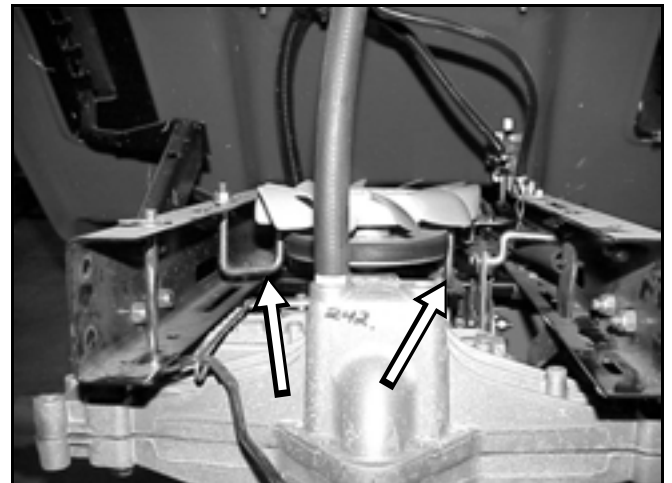

Figure 109
3. Loosen the right and left rear transaxle belt guides and swing them away from the transaxle input pulley (Figure 109).